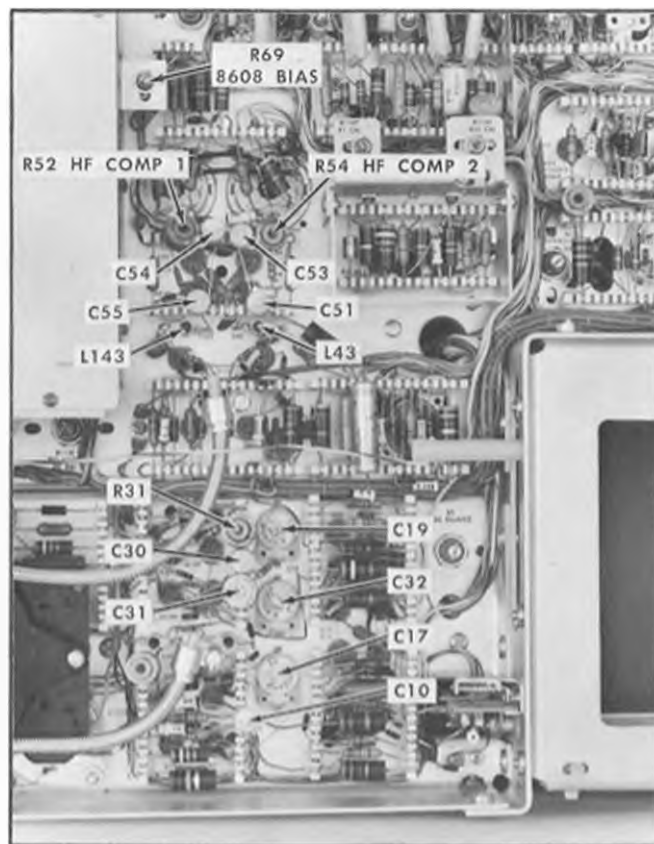
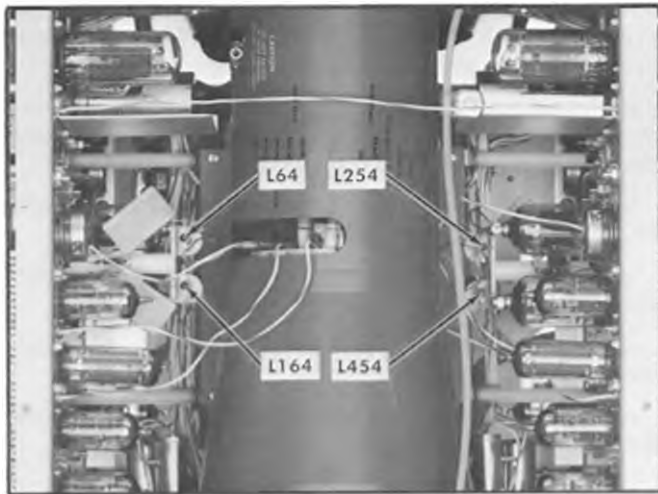

Fig. 6-58. Vertical Amplifier high-frequency compensation adjustment locations, left side; left bottom rail removed.
Fig. 6-60. Left and Right Vertical Amplifier high-frequency compensation adjustment locations (top view of the instrument).
- f. Adjust R69 (see Fig. 6-58) so the front portion of the displayed waveform flat top is rolled off slightly. Readjust R69 so the front portion of the flat top just becomes flat.
e. Adjust left amplifier compensations as shown in Table 6-5. Adjustment locations are shown in Fig. 6-58 and Fig. 6-60.